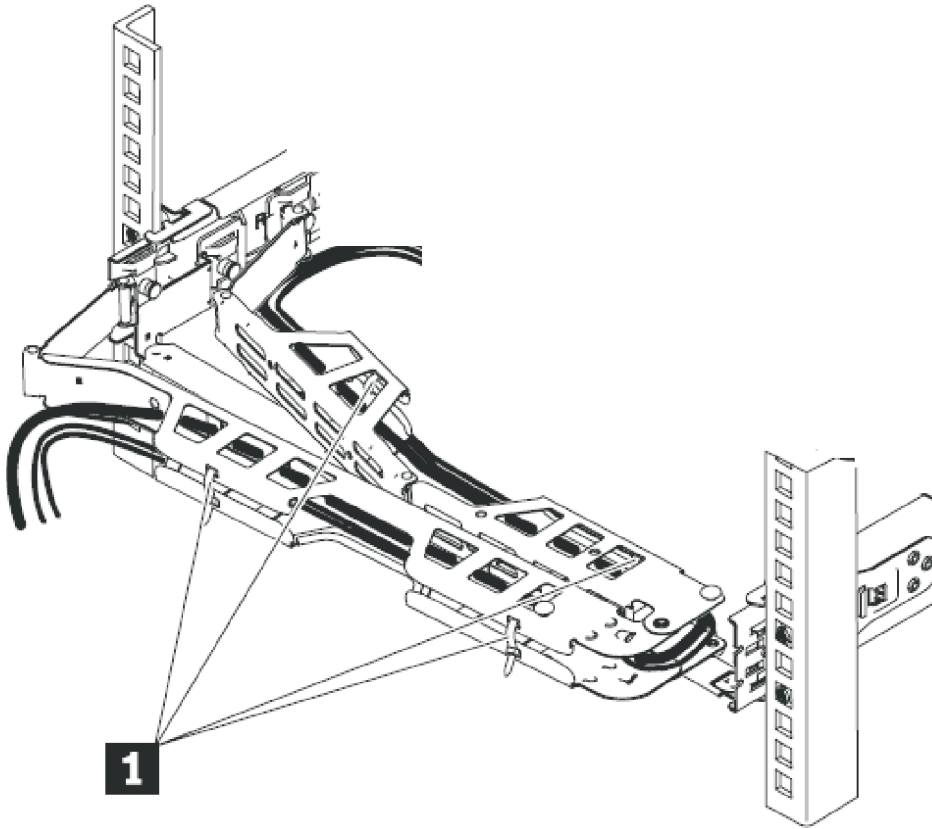

Figure 17. Connecting and routing the cables
- a. Route the data cables and power cords on the cable-management arm, as shown by **1** in Figure 17 on page 34.